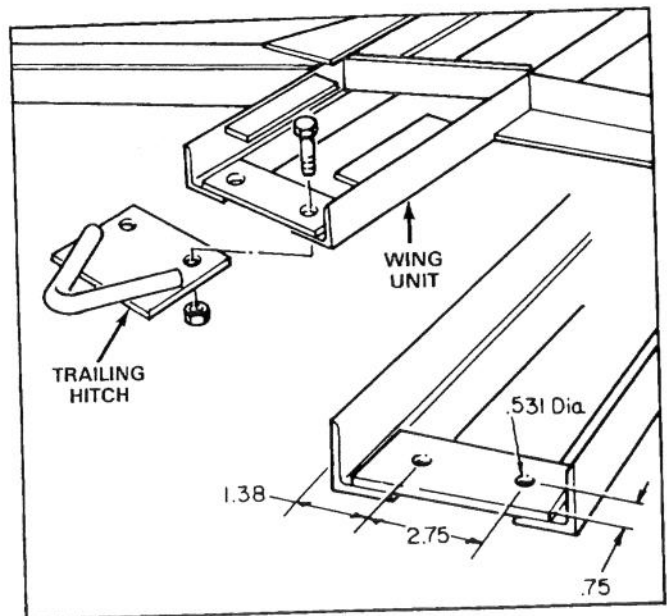

Figure 9
3. Install kit parts to wing unit by securing trailing hitch to underside of frame with (2) capscrews and locknuts (Fig. 9).